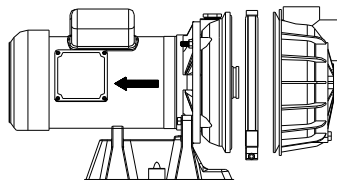

Figure 9
- Remove clamp (See figure 9)
- Remove pump base mounting bolts. Motor assembly and back half of pump can now be pulled away from pump front half (See figure 9). CAREFULLY remove O-Ring.